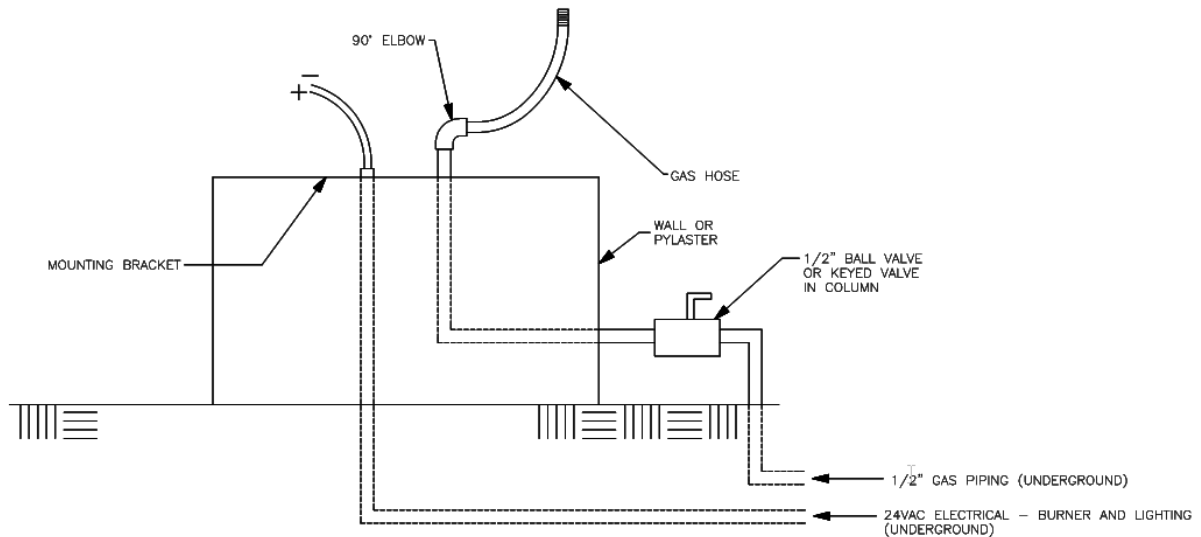

Figure 5
8. Install 90° pipe elbow and gas hose at the gas connection as shown in Figure 5.
10. Install supplied flexible gas hose to 90° pipe elbow and gas connection at the burner assembly as seen in Figure 5. Ensure that gas connection is tight with no leaks.